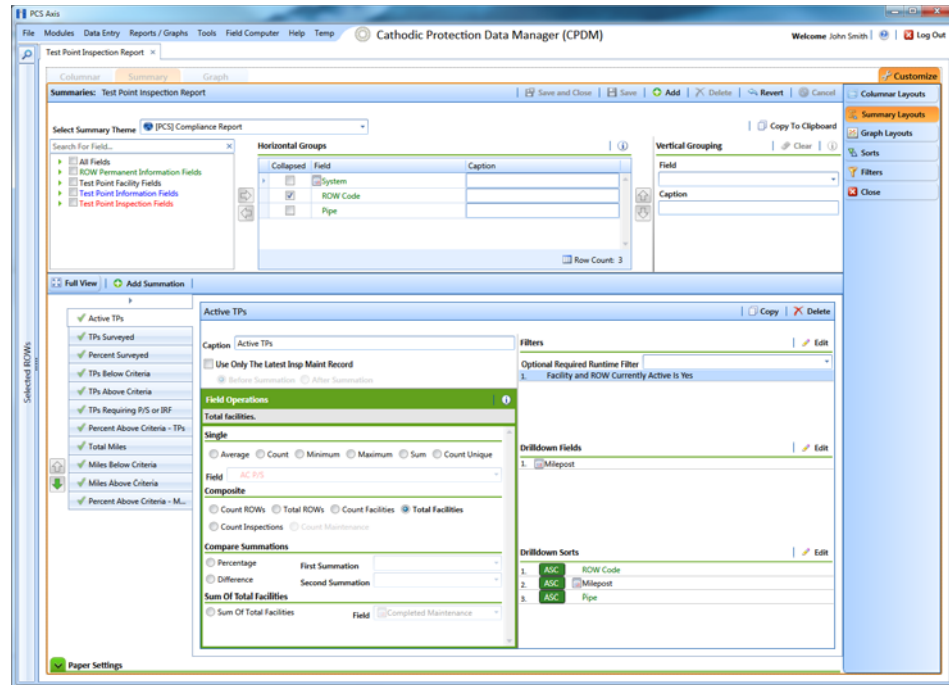

Figure 14-33. Summary Layouts
- 4 Click the **Summary Layouts** button  to open the *Summaries* page (Figure 14-33, page 571).